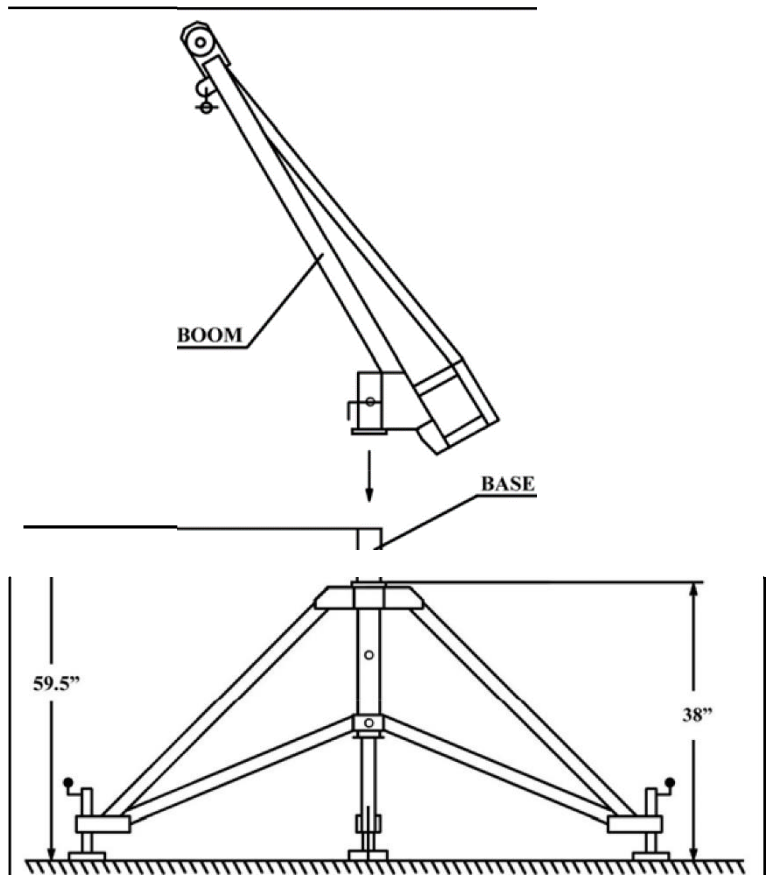

Figure 5. The Quadpod Boom and Base
1. Always dismount the devices from the Quadpod. Store the Quadpod in transport mode (Figure 5) in an area free of corrosive elements and excessive heat.